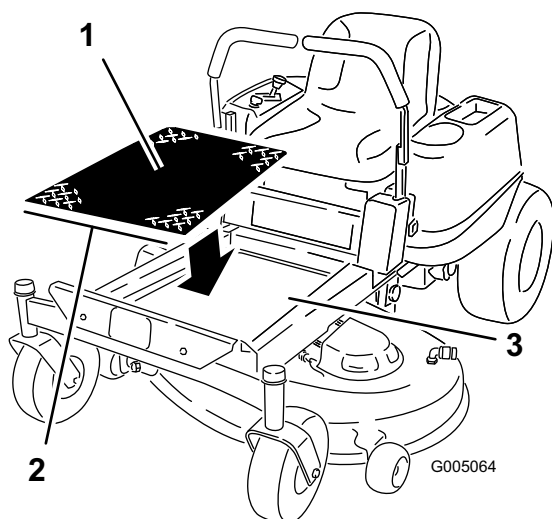

Figure 1
1. Remove the adhesive backing of the floor mat (Figure 1).